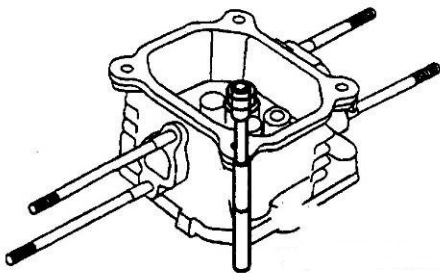

Figure 4-20: Valve Guide Driver Shown
4. See Figure 4-20. Use a 5.5 mm (0.2165 in.) valve guide driver and carefully remove the exhaust valve guide from the cylinder head.